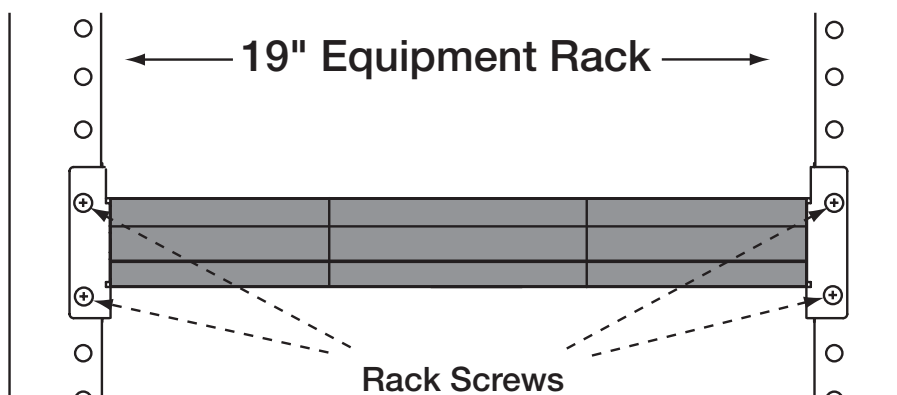

Figure B-3
3. Once the unit is securely mounted onto the rack mount brackets, install the entire assembly into a standard 19" equipment rack from the front using four rack screws (not included) as shown in *Figure B-3*.